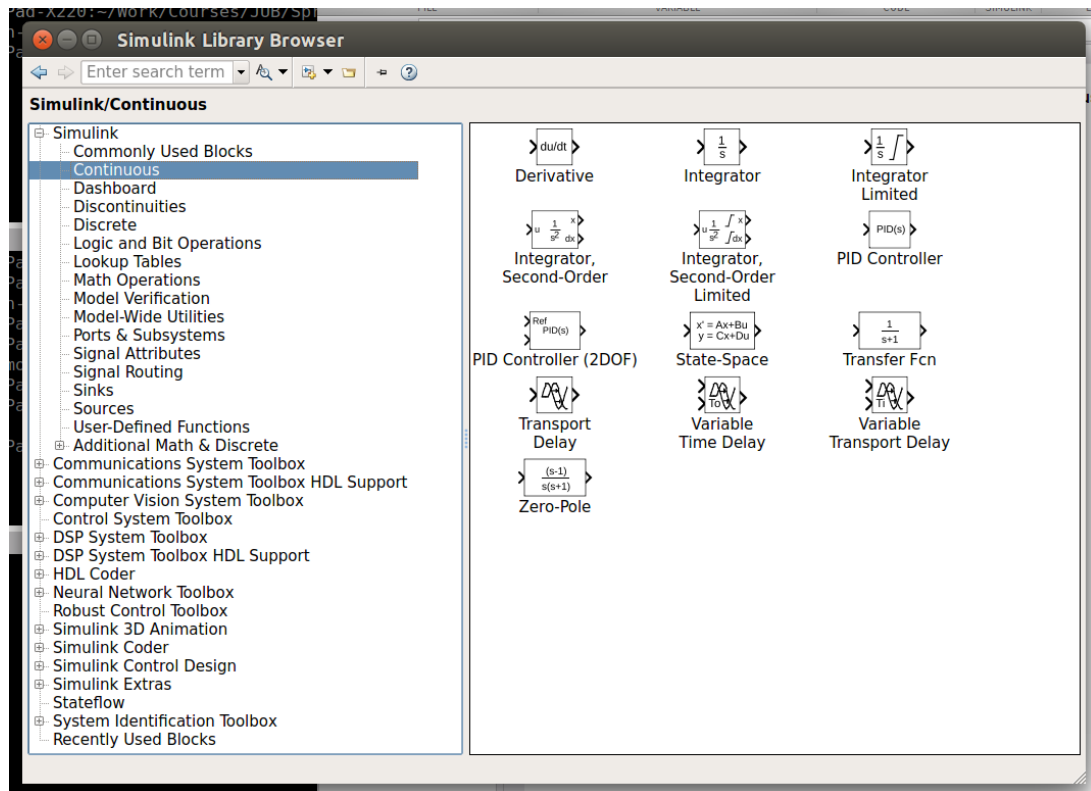

Figure 1.1: The Simulink library browser (SLB).
- Click the *Simulink Library* icon of the *Home* tab to open the SLB (Fig. 1.1).